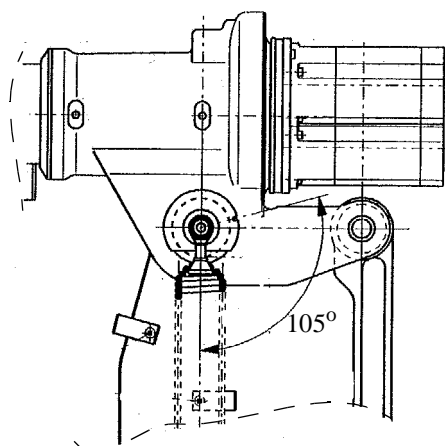

Figure 4 Calibration mark for axis 3.
23. If the old armhouse is mounted, adjust the calibration washer according to the punch mark. If the armhouse is new adjust the washer according to Figure 4 and make a new punch marks for axes 3 and 4, according to chapter 9.2.